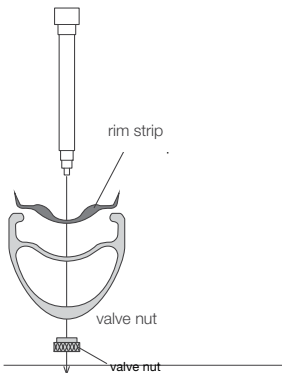

Figure 1. The U shape of the rim strip should face towards the center of the rim.
2. Align the rim valve hole and the valve hole of the rim strip. The U shape of the rim strip should face toward the center of the rim and offset rim strips should match the offset in the rim (Figure 1).